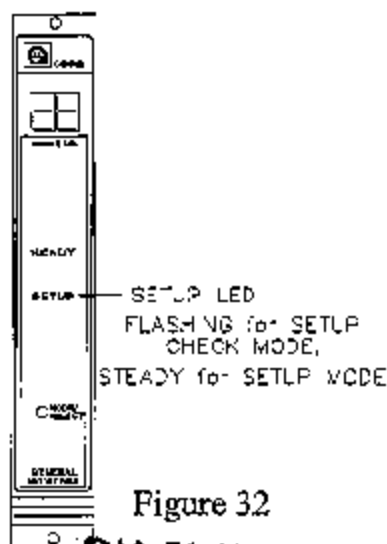
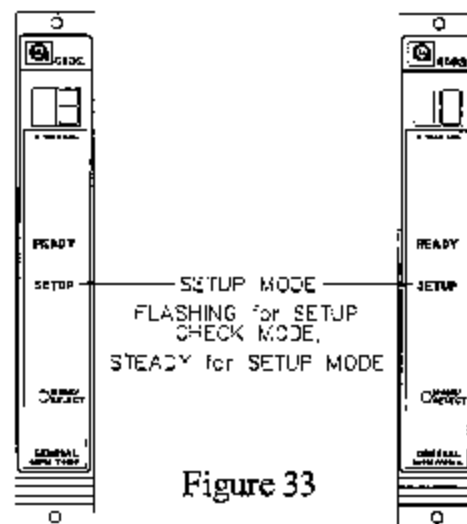

Figure 32
Figure 33
- After the Fault/Inhibit option has been selected, the user will select the ramp time (3 or 10 seconds) and whether or not the alarm outputs will activate during a Card Test. The display will indicate **ct** for about five seconds (figure 32) followed by the ramp up time (3 or 10) during the card test (figure 33). 3 is the factory default for this selection.